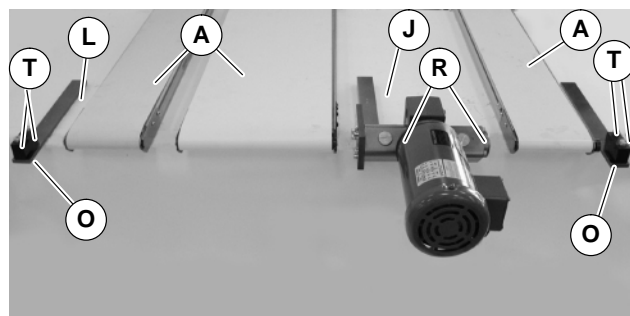

Figure 20
- Remove screws (T of Figure 20) and remove bearing blocks (O).
- Remove four (4) inspection plugs (R of Figure 20).